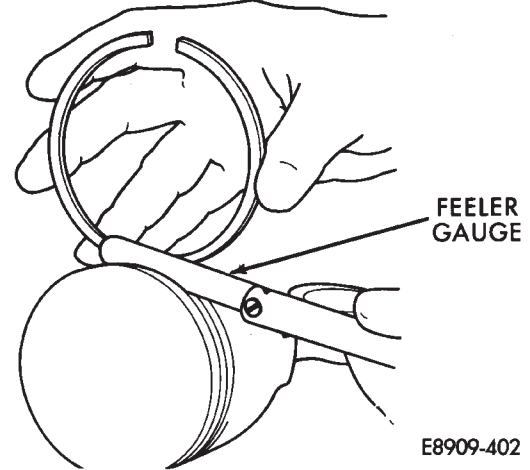

Fig. 11 Ring Side Clearance Measurement
(1) Carefully clean the carbon from all ring grooves. Oil drain openings in the oil ring groove and pin boss must be clear. DO NOT remove metal from the grooves or lands. This will change ring-to-groove clearances and will damage the ring-to-land seating.
(2) Be sure the piston ring grooves are free of nicks and burrs.
(3) Measure the ring side clearance with a feeler gauge fitted snugly between the ring land and ring (Fig. 11). Rotate the ring in the groove. It must move freely around circumference of the groove.